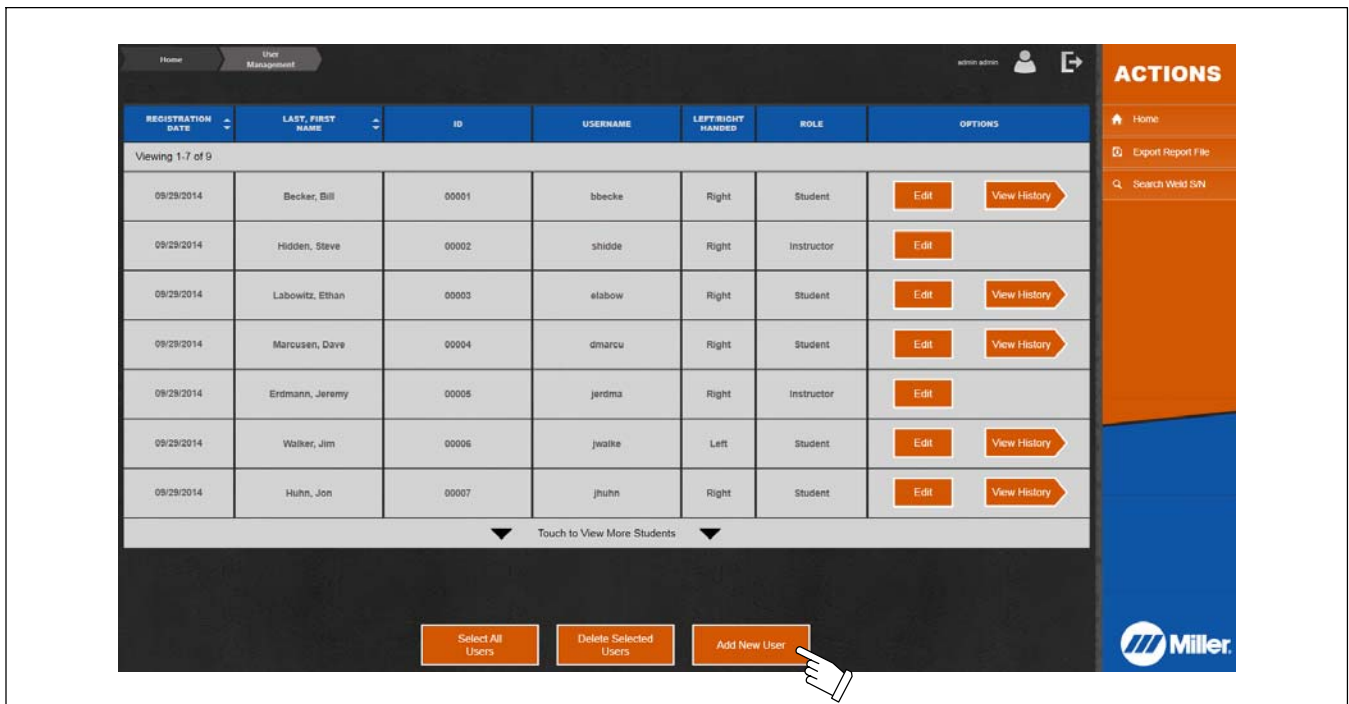
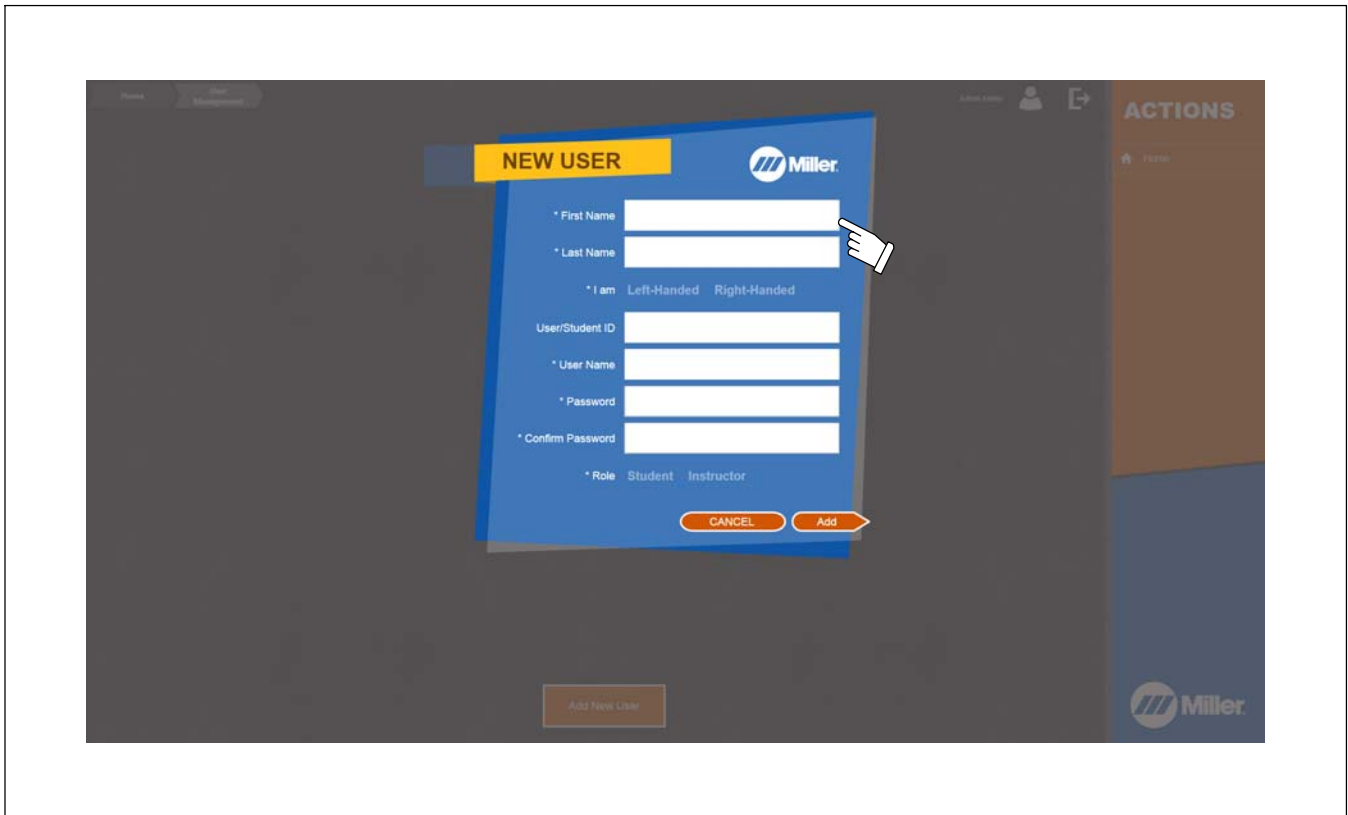

Figure 10-2. Accessing New User Screen
Figure 10-3. Entering New User Information
1. To enter new user data, touch *Add New User* (Figure 10-2 and Figure 10-3).